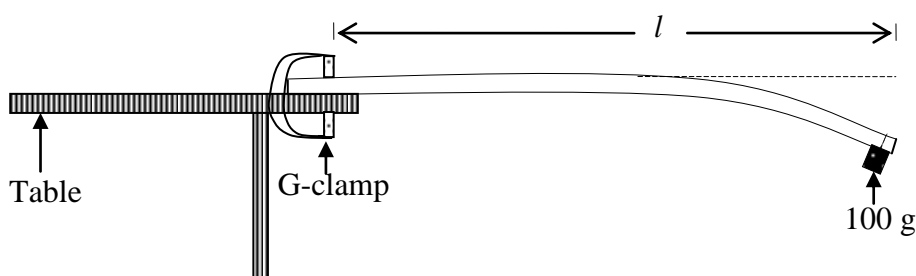

Figure 17
- (b) Clamp firmly the loaded wooden metre rule to the edge of the bench by G-clamp with length, $l = 70$ cm projected from it as shown in Figure 17: